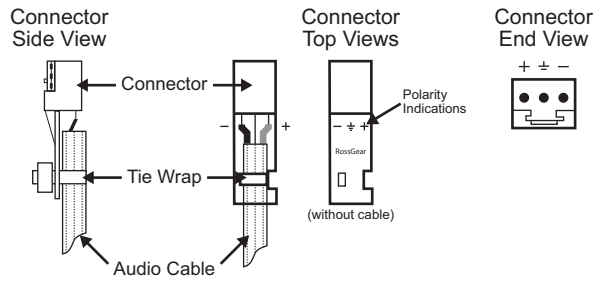

Figure 13.5 Connector Wiring for the Breakout PCB 3-pin Connectors
1. Insert a wire to the designated polarity slot on the connector of the rear panel. **(Figure 13.5)**